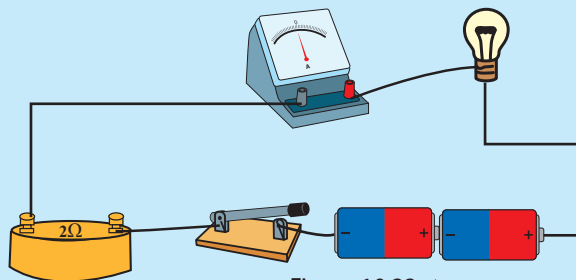

Figure 10.22 ▲
- Then, connect the extra fixed resistor of  $2\ \Omega$  to this circuit as shown in Figure 10.22.
- Open the switch of the circuit shown in Figure 10.22 and replace the fixed resistor of  $5\ \Omega$  instead of  $2\ \Omega$  resistor